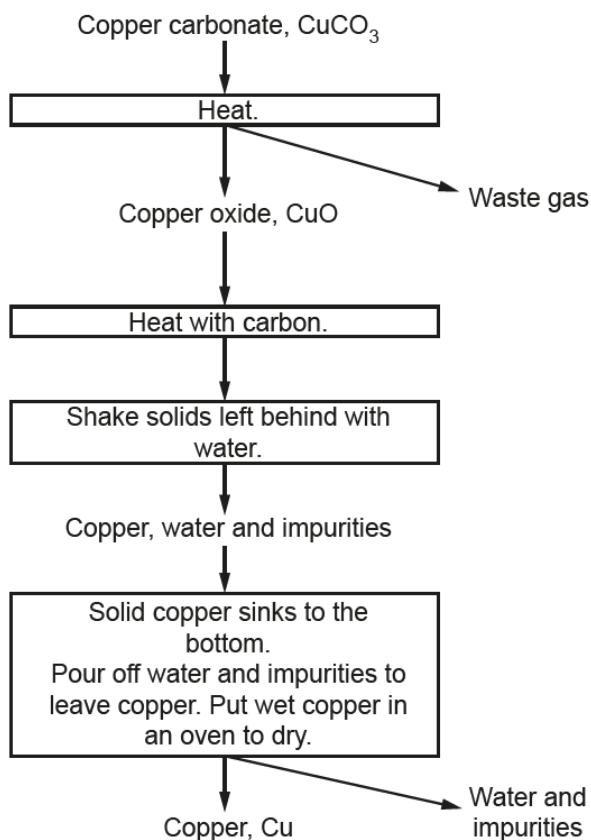

Fig. 5.1
The flowchart in Fig. 5.1 shows how copper can be made from copper carbonate, either in industry, or on a small scale in the laboratory.
- (b) Copper made by the method in Fig. 5.1 contains solid impurities.
(c) Jane uses the flowchart in **Fig. 5.1** as a method in the laboratory.
I followed the flowchart (**Fig 5.1**), but I think some of my method could be improved to make sure I get the highest possible percentage yield.
Use the flowchart in **Fig. 5.1** to support your answer.